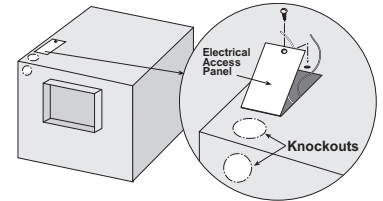

Fig. 2
2. Remove either top or side wiring knockout, depending on wiring direction, by bending it back and forth to break tabs, shown in Fig. 2.